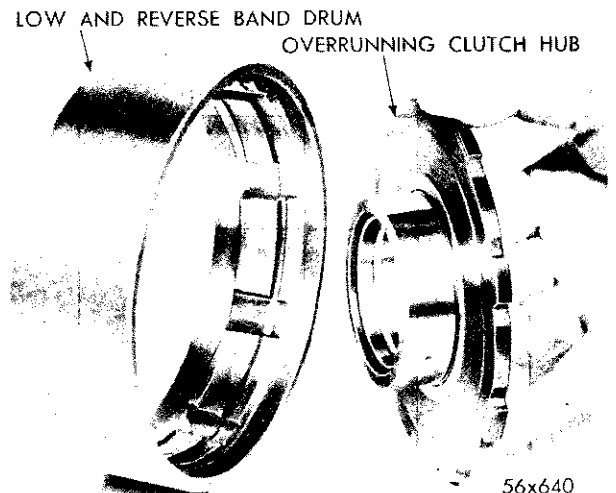

Fig. 69—Removal and Installation of Overrunning Clutch Hub in Low and Reverse Band Drum
(5) Using a screwdriver, remove the snap ring (D) from the low and reverse band drum assembly (G).
(6) Remove the low and reverse planet pinion carrier assembly (E) from reverse band drum.
(7) Remove the overrunning clutch hub assembly from reverse band drum, Figure 69.
(8) Remove the overrunning clutch cam roller springs (H) and rollers (I) (ten each) by removing gauge, Tool C-3527, from the intermediate support and cam assembly. **Have the assembly over bench when removing the tool.**
- (1) Install overrunning clutch hub assembly (hub first) into the snap ring side of the low and the reverse band drum (Fig. 69).
- (2) Place low and reverse planet pinion carrier